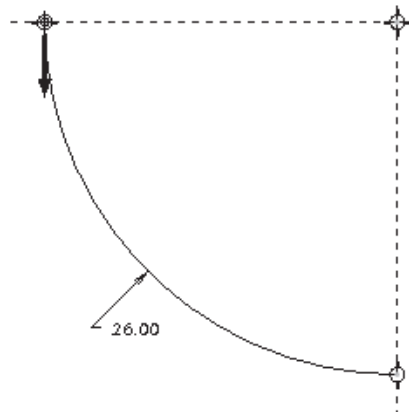

Figure 7-88 Dimension for the arc
1. Double-click on the dimension and modify the radial dimension to 26, as shown in Figure 7-88. You will notice the sketch refits on the screen.